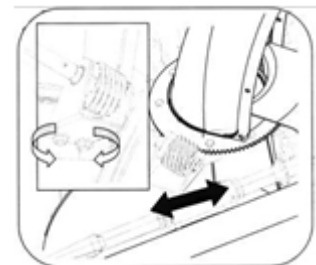

Fig. 34
2. Tighten the nuts. See Figure 34